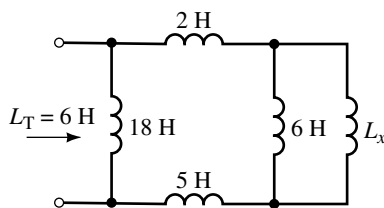

FIGURE 13-37
24. For Figure 13-37, determine L_T .